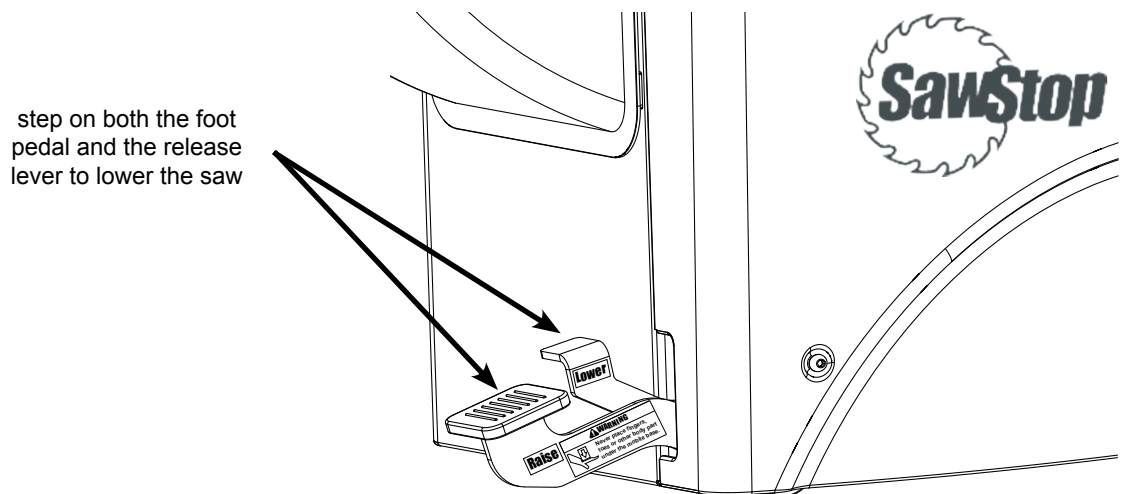

Fig. 42
3. To lower the saw back to the floor, step down on both the foot pedal and the release lever simultaneously (see Fig. 42). Slowly lift your foot upwards to allow the saw to gently lower to the floor. Do not step on the release lever without having your foot on the foot pedal or your saw will lower to the floor rapidly.